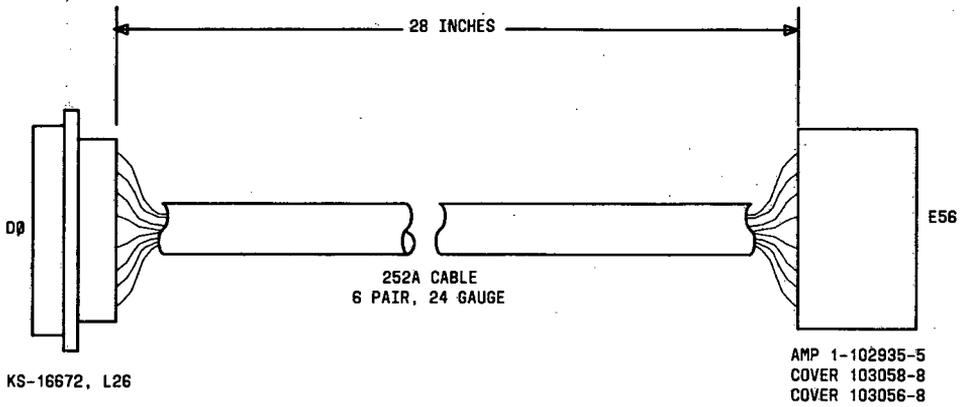

Figure 21. ED-1E434, Group 133 Cable
Install the ED-1E434, Group 133 (Figure 21) intracabinet cable(s) in the central module control cabinet(s) associated with RMI as shown in Table D. These cables connect from the module control carrier backplane pins **E56** to the inside of the rear connector **REM D0** on the plates (845416585) added as described in the "Cable Connector Plates" section. The connection for module control (01) is for duplicated systems only.